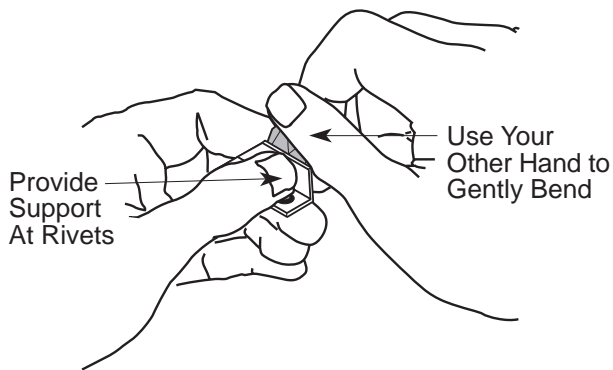

Figure 4-1: Adjusting the Thermocouple
4. Grasp the aluminum base of the thermocouple on either side of the rivets to provide support as shown in Figure 4-1. Using your fingers, gently bend the thermocouple where the "guitar pick" sensor meets the aluminum base.